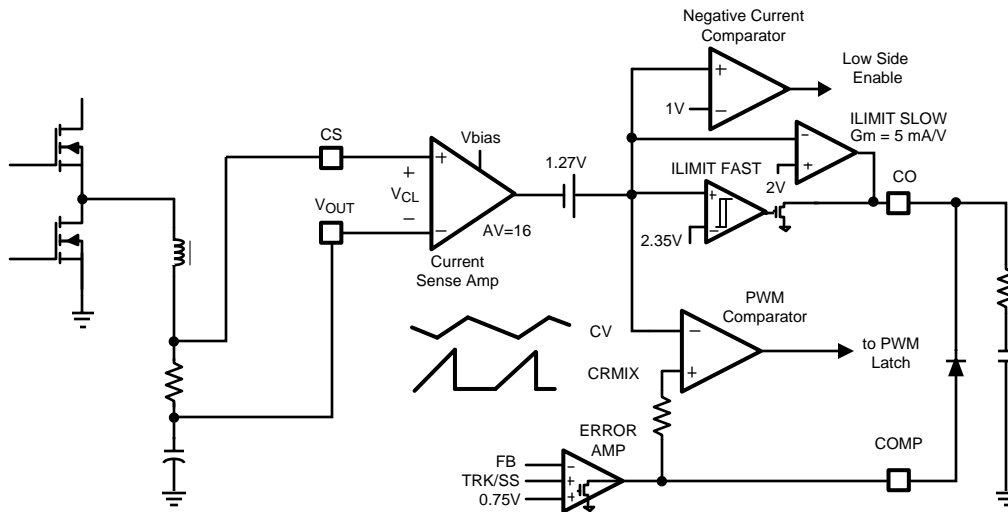

Figure 21. Current Sensing and Limiting
The current sense amplifier shown in Figure 21 monitors the inductor current as it flows through a sense resistor connected between CS and VOUT. The voltage gain of the sense amplifier is nominally equal to 16. The current sense output signal is shifted by 1.27V to produce the internal CV reference signal. The CV signal is applied to the negative input of the PWM comparator and compared to CRMIX as illustrated in Figure 21. Therefore when CRMIX exceeds the PWM threshold (CV), the PWM comparator turns on the high-side MOSFET. Insure that the V_{bias} voltage is at least 3V above the regulated output voltage (VOUT) to provide enough headroom for the current sense amplifier.
Current limiting is implemented through the current sense amplifier as illustrated in Figure 21. The current sense amplifier monitors the inductor current that flows through a sense resistor connected between CS and VOUT. The voltage gain of the current sense amplifier is nominally equal to 16. The output of current sense signal is shifted by 1.27V to produce the internal CV reference signal. The CV signal drives two current limit amplifiers. Both of the current limit amplifiers have open drain (sink only) output stages which are connected to the CO pin. The CO pin is typically connected to the COMP pin through a diode (the cathode is connected to the CO pin and the anode is connected to the COMP pin). The slow current limit amplifier has a nominal transconductance of 5 mA/V and provides constant current mode operation at the desired current limit set point. The fast current limit amplifier has nominal current pull-down capability of 100mA and provides protection against fast over-current conditions. During normal operation, the voltage error amplifier controls the COMP pin voltage which adjusts the PWM duty cycle by varying the internal CRMIX level. However when the current sense input voltage, V_{CL} , exceeds 45mV, the slow current limit amplifier gradually pulls down on COMP through the CO pin. Pulling COMP low reduces the CRMIX signal and thereby reducing the operating duty cycle. By controlling the operating duty cycle, the slow current limit amplifier will force a constant current mode of operation at the desired current limit set point (Figure 23). A resistor in series with a capacitor are connected from the CO Pin to ground to provide adequate control loop compensation for the slow current limit (Figure 21). The desired current limit set point, I_{Limit} , can be programmed by selecting the proper current sense resistor, R_{SENSE} , using the following equation:
Under certain conditions synchronous buck regulators are capable of sinking current from the output capacitors. This energy is stored in the inductor and returned to the input source. The LM25115A detects this current reversal by detecting a negative voltage being developed across the current sense resistor. The intent of this negative current comparator is to protect the low-side MOSFET from excessive currents. Excessive negative current can also lead to a large positive voltage spike on the HS pin at the turn-off of the low-side MOSFET. This voltage spike may damage the chip if its magnitude exceeds the maximum voltage rating of the part. The negative current comparator threshold is sufficiently negative to allow inductor current to reverse at no load or light load conditions. It is not intended to support discontinuous conduction mode with diode emulation by the low-side MOSFET. The negative current comparator shown in Figure 21 monitors the CV signal and compares this signal to a fixed 1V threshold. This corresponds to a negative V_{CL} voltage between CS and VOUT of -17mV. The negative current limit comparator turns off the low-side MOSFET for the remainder of the cycle when the V_{CL} input falls below this threshold.